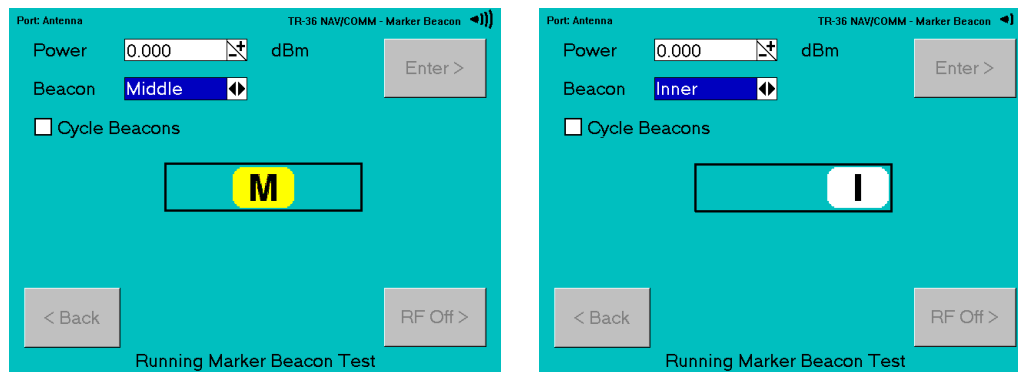

Figure 2-33. Marker Beacon Middle and Inner Beacons
10. Using the arrow keys, select the INNER and MIDDLE markers respectfully and verify the correct Tone and Lights in the aircraft under test (Figure 2-33). You must select **ENTER** each time you change the marker.